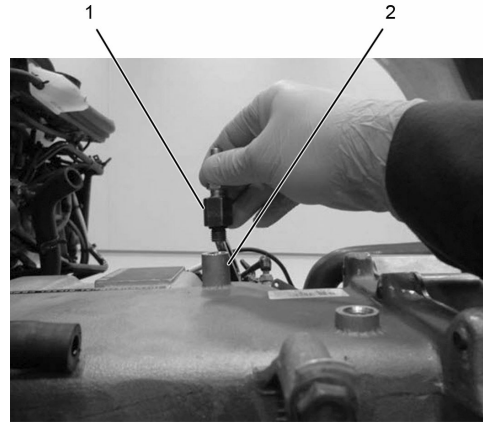

Figure 17
26. Install cooler plug - leak detection (Figure 17, Item 1) into EGR high-temperature deaeration port (Figure 17, Item 2).